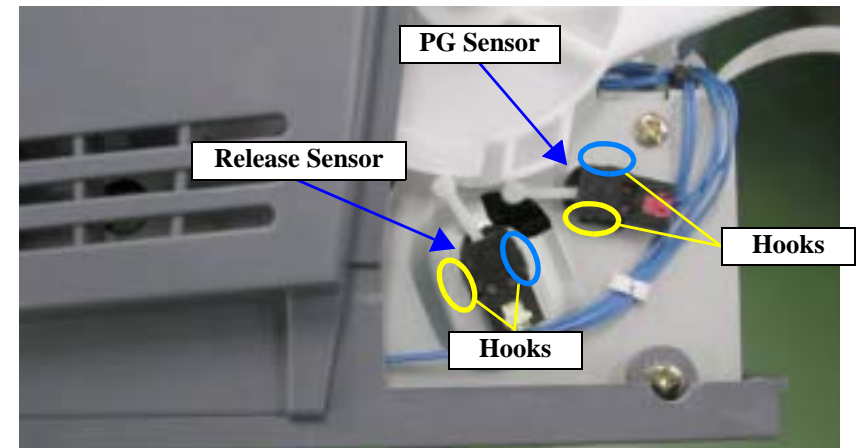

Figure 4-91. Removing the PG Sensor and Release Sensor
- When reinstalling the PG Sensor and Release Sensor, locate the PG Sensor Connector Cable end, which is read, in the top right position, and the Release Sensor Connector Cable end, which is yellow, in the bottom left position. Refer to Figure 4-91, "Removing the PG Sensor and Release Sensor".